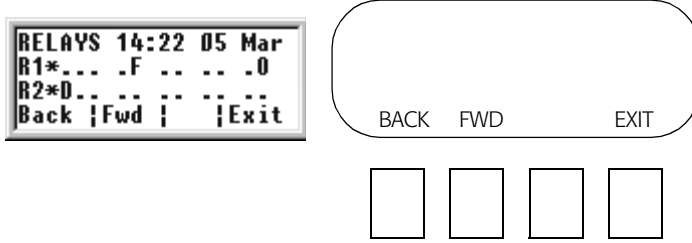

Figure 16: Relay Status Menu
- If you press RELAY STAT, a screen like Figure 16 appears: